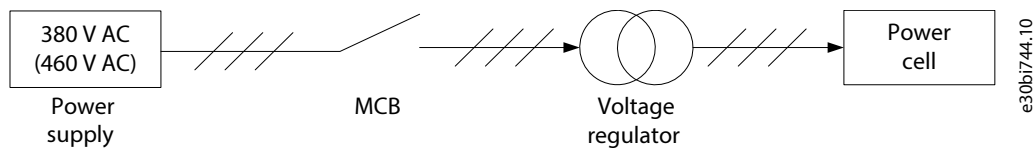

Figure 98: AC Supply Wiring Diagram
2. Connect the wires as shown in Figure 98. Install the MCB between the AC supply and the voltage regulator. Connect the voltage regulator secondary winding to the power cell 3-phase input.